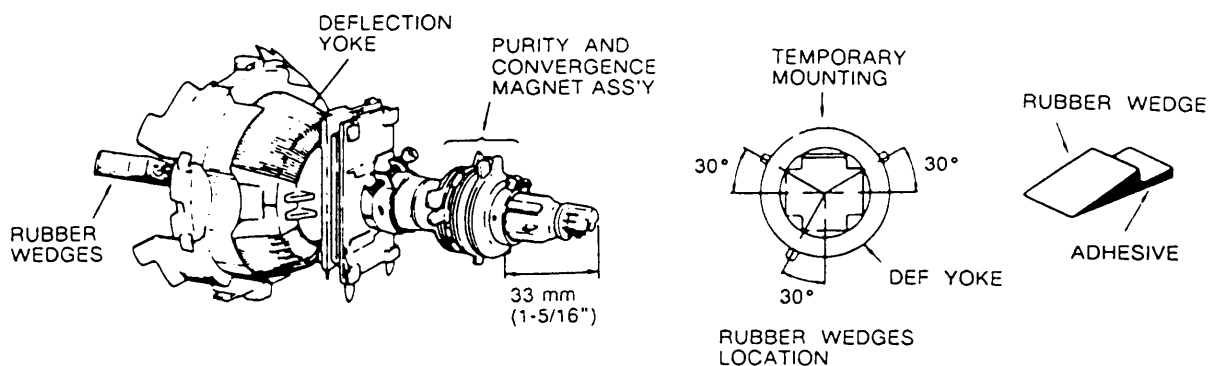

Figure 1.
2. Put a wedge as shown in figure 1. temporarily. (Do not remove cover paper on adhesive part of the wedge.)